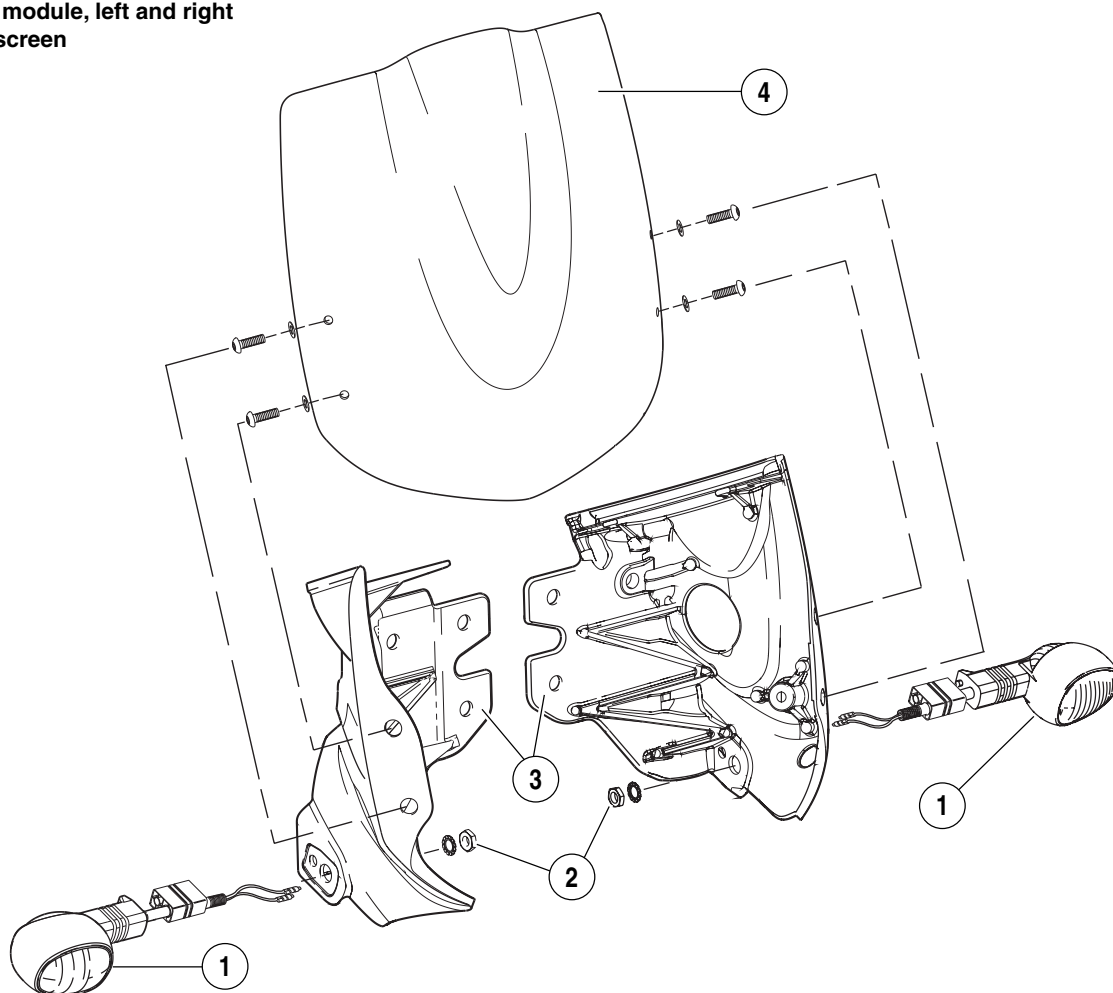

Figure 7-53. Front Turn Signals
3. See Figure 7-53. Remove jam nut and lockwasher (2) from inside of front module (3).
4. Pull bullet connectors and wiring through hole in front module (3) and remove turn signal (1).
1. See Figure 7-53. Insert bullet connectors and wiring through hole in front module.